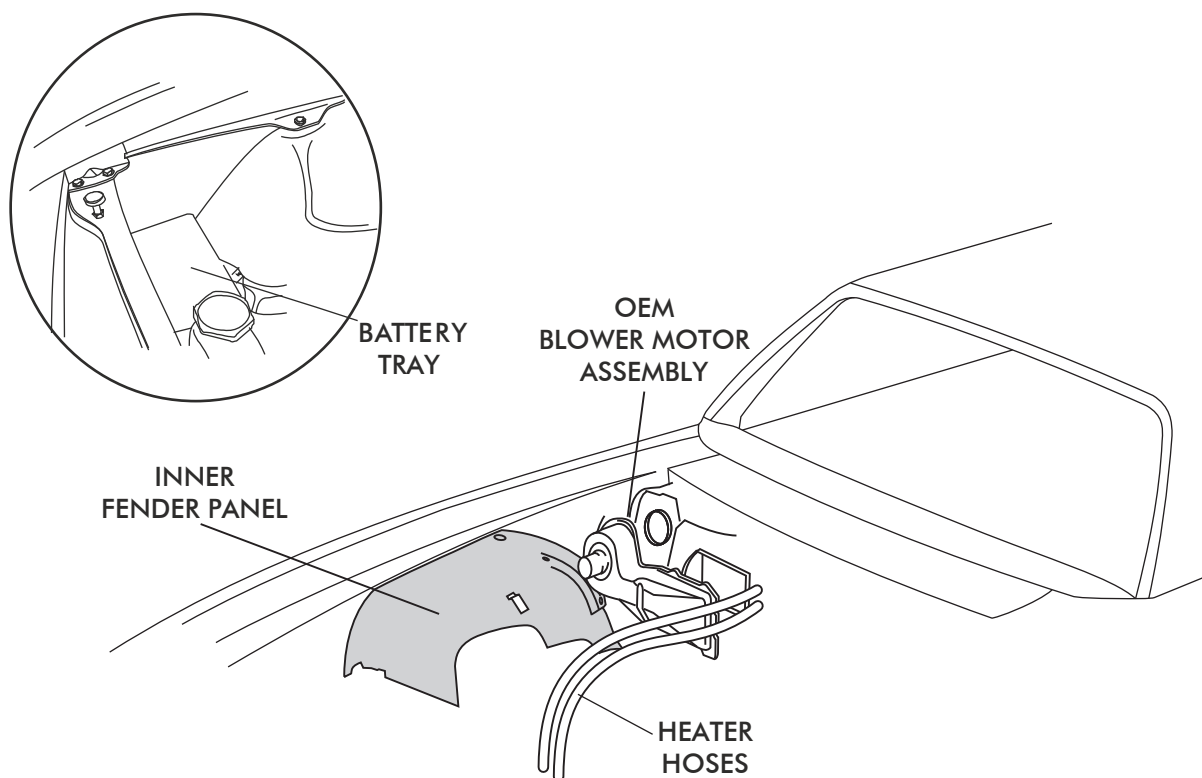

FIGURE 1
- ☐ OEM HEATER HOSES (DISCARD). SEE FIGURE 1.
- ☐ OEM HEATER WIRING (DISCARD). SEE FIGURE 1.